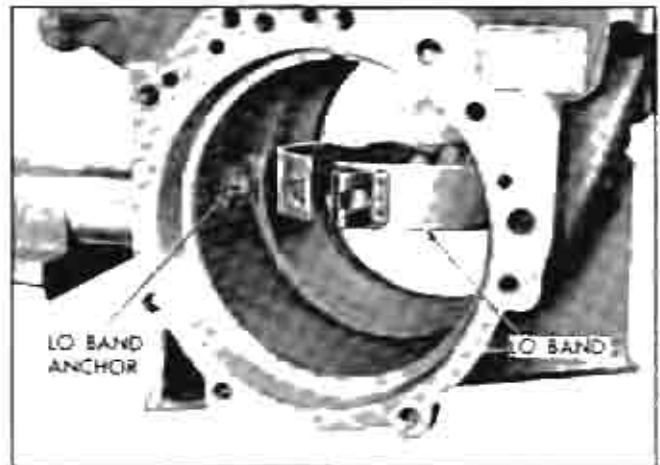

Fig. 149 Installing LO Band
1. Install LO band through front end of transmission case with the band ends facing rearward in a horizontal position (Fig. 149). (Anchor support hole should face right hand side.)